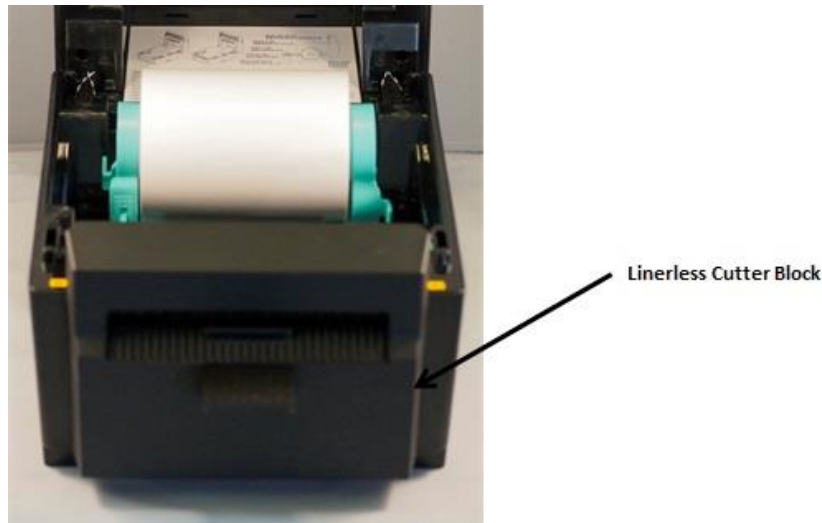

**Figure 5: Approved tools (Pen color may vary) and their use**
4. Use the Silicone Cleaning Pen to clean the Thermal Print Head and a USPS-approved plastic scraper to scrape off any remaining residue (see **Figure 5**).